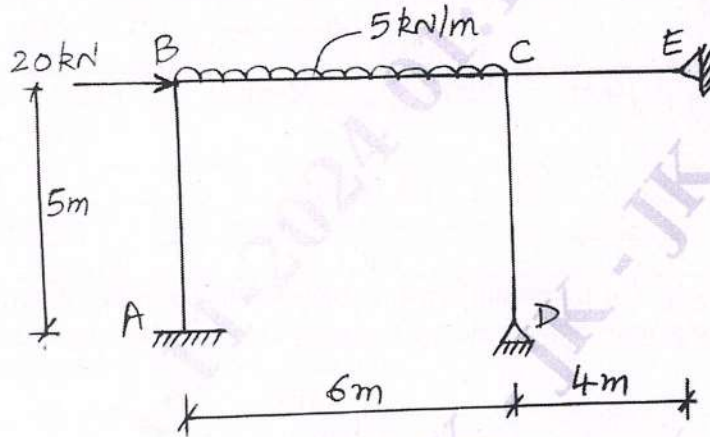

Fig.Q.10(b)
**b.** Analyze the frame shown in Fig.Q.10(b) by moment distribution method and draw bending moment diagram. Assume EI constant. **15** **L4** **CO5**